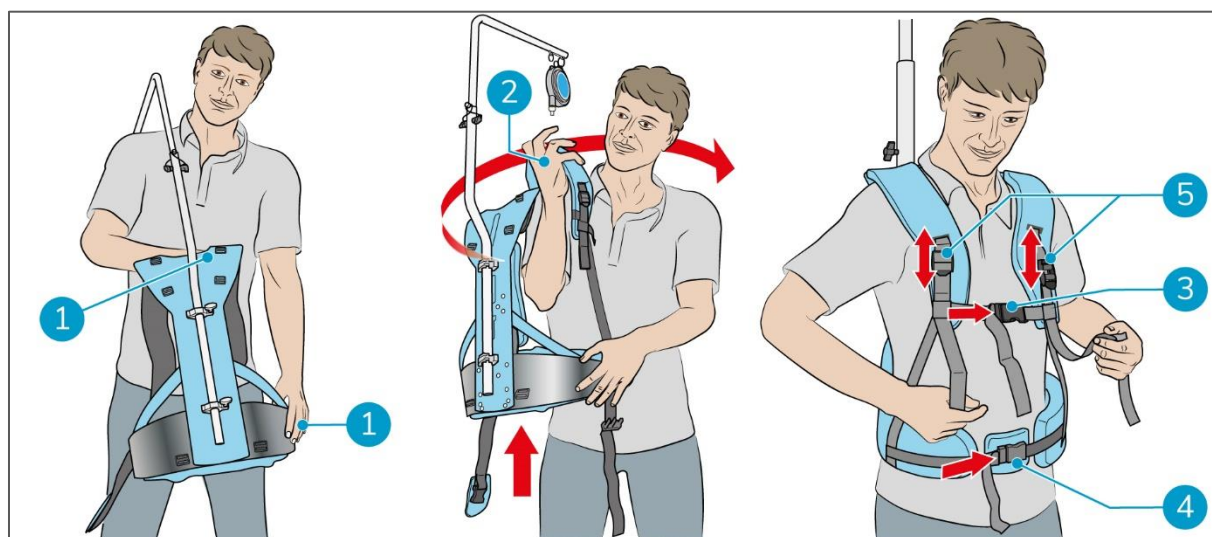

Figure 11
2. Take up the i-suit with both hands (Figure 11 pos. 1), with the top of the support tube over your shoulder.
3. Put on the i-suit like a backpack (Figure 11 pos. 2).
4. Close the chest straps (Figure 11 pos. 3) and the waist straps (Figure 11 pos. 4).
5. Adjust the length of the straps for comfort (Figure 11 pos. 5).